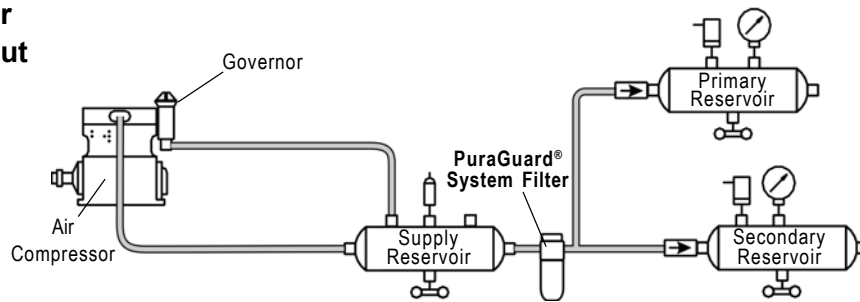

FIGURE 4
- (b) **For vehicles without air dryers**, install the *PuraGuard*® system filter downstream of the supply reservoir (wet tank) (see Figure 4). Both the primary and secondary reservoirs will receive their air supply from the discharge of the *PuraGuard*® system filter and depending on original vehicle hose arrangement, extra fittings may be required.
Follow either Figure 4 or 5 for air hose arrangement.